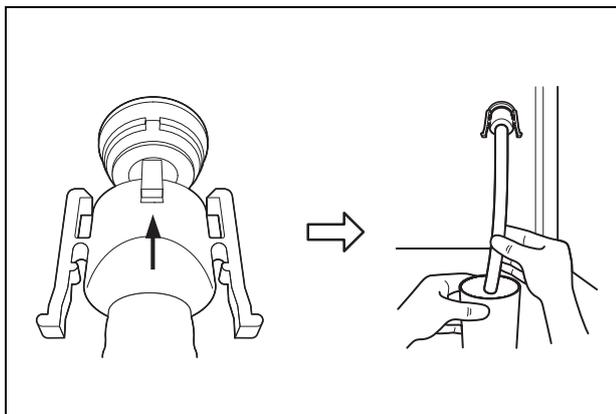

Figure 7.62
14. Put the tube-side end of the disinfectant removal tube in the container (small), and connect the disinfectant removal tube to the disinfectant removal port to drain the small amount of residual disinfectant solution from the disinfectant solution tank (see Figure 7.62).